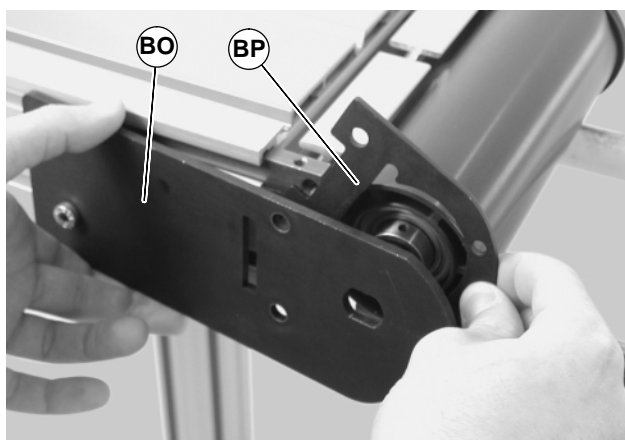

Figure 48
3. Pull back the outer headplate (BO of Figure 48) and remove the inner spacer (BP).